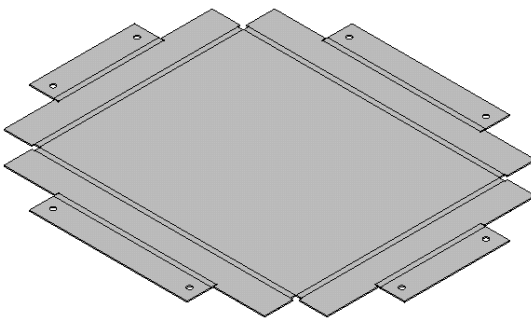

Figure 16-157 Unfolded view of the model
2. Choose the **Collect All Bends** button and then choose **OK** from the **Unfold PropertyManager**. The unfolded view of the model is shown in Figure 16-157.